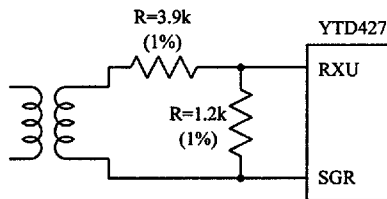

Figure 4.1: Receive Interface Connection
**Receive Interface**      Receive pin RXU has a high input impedance. An example of a reference circuit of the receive interface is shown in Figure 4.1.